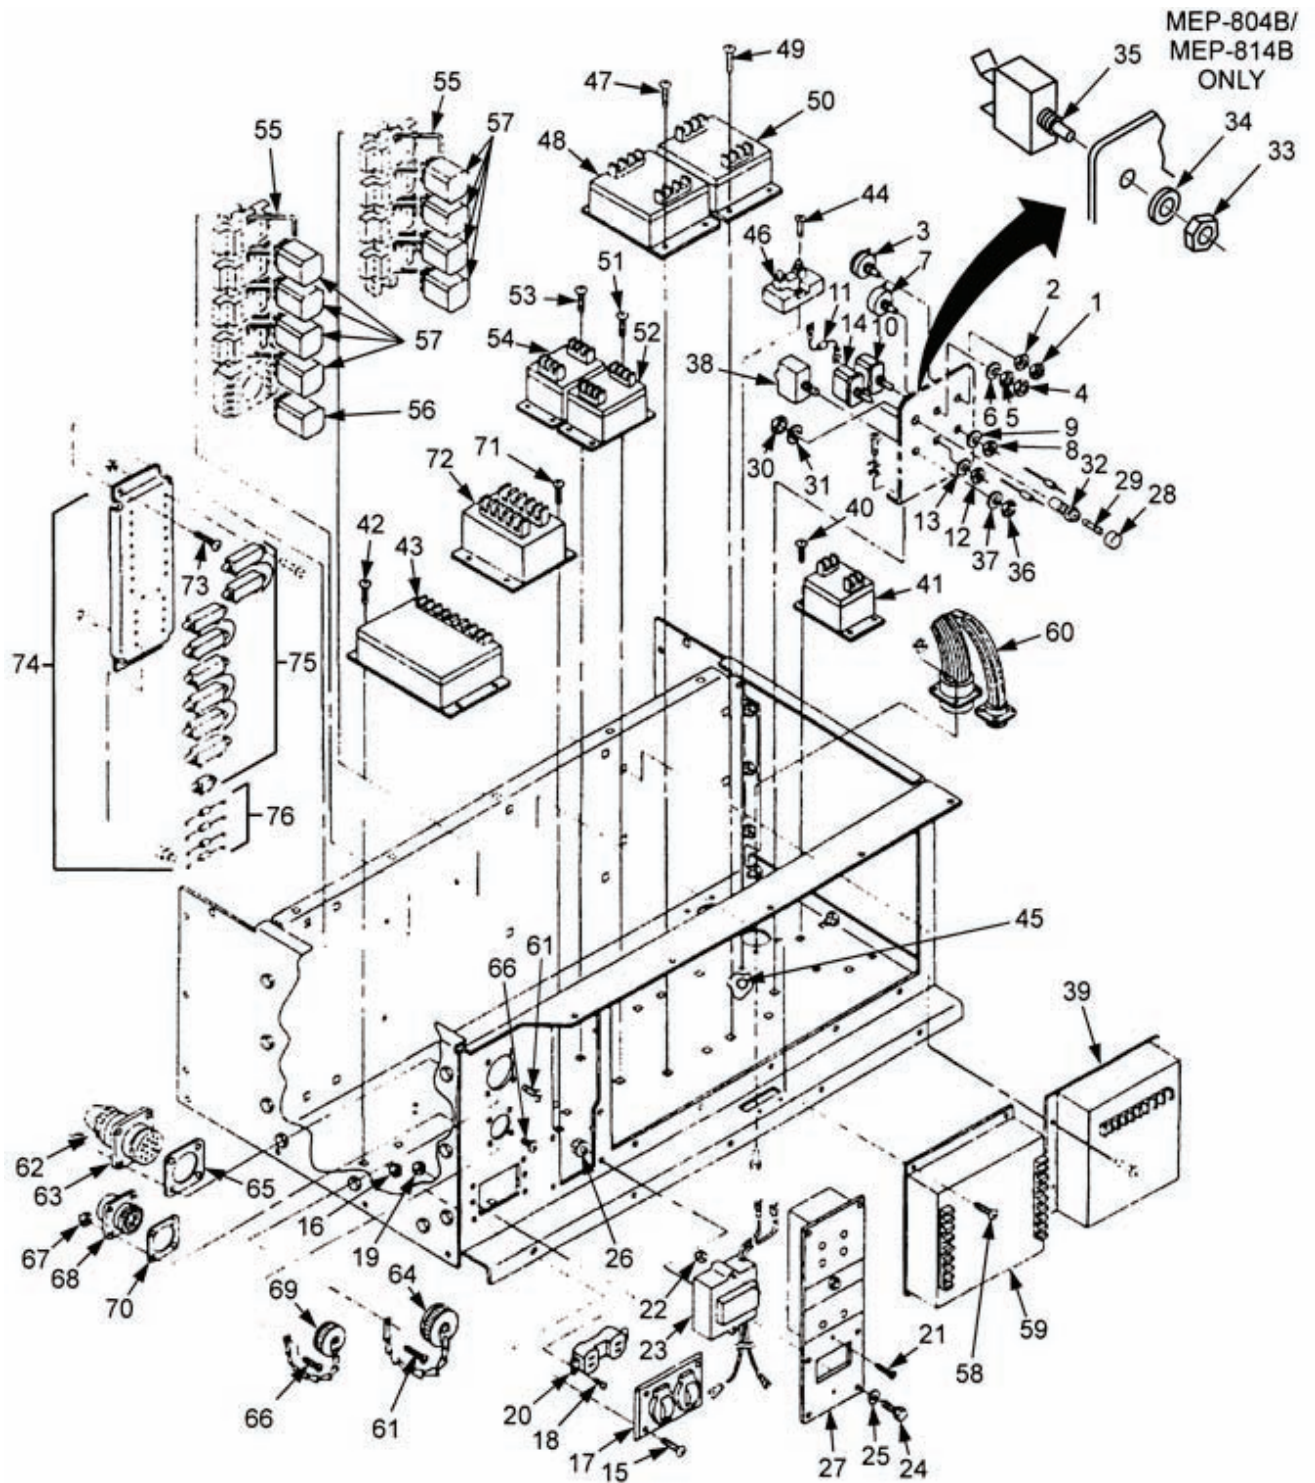

Figure 2-14. Control Box Components.
- d. Tag and disconnect REACTIVE CURRENT ADJUST rheostat (3, Figure 2-14) electrical leads by unsoldering and remove shrinkable tubing.
- e. Remove nuts (1 and 2) and rheostat (3).
- a. Install rheostat (3, Figure 2-14) in mounting bracket.
- d. Tag and disconnect LOAD SHARING ADJUST rheostat (7, Figure 2-14) electrical leads.
- e. Remove nuts (4 and 5), lock washer (6), and rheostat (7). Discard lock washer (6).
- a. Install LOAD SHARING ADJUST rheostat (7, Figure 2-14) in mounting bracket.
- b. Install new lock washer (6) and nuts (5 and 4).
- d. Tag and disconnect OVERSPEED RESET switch (10, Figure 2-14) electrical leads.
- h. Connect electrical leads to switch (10). Remove tags.
- e. Remove nut (8), lock washer (9), and switch (10). Discard lock washer (9).
- a. Install OVERSPEED RESET switch (10, Figure 2-14) in mounting bracket.
- b. Install new lock washer (9) and nut (8).